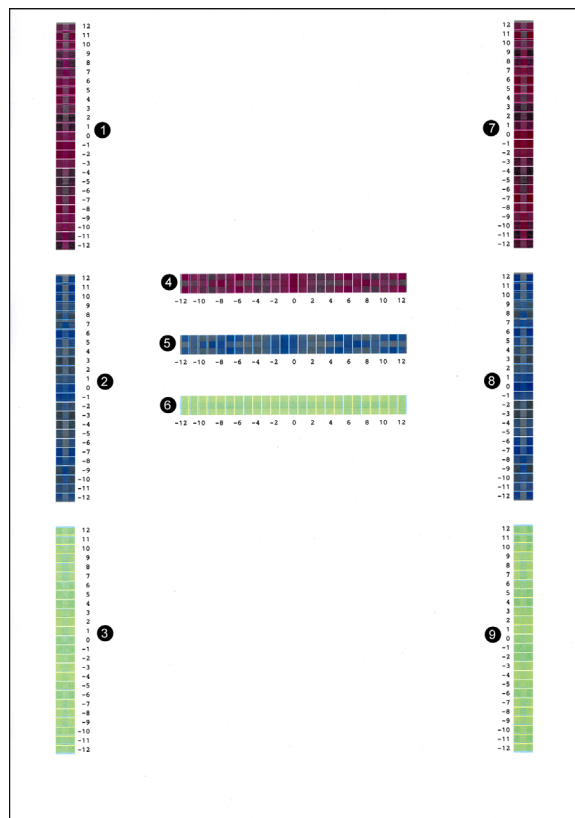

Fig. 5-15
- (2) Press the **▲** or **▼** key to display "PRINT CHART" on the LCD.
- (3) Press the **SET** key. "PRINTING" is displayed on the LCD, and printing of misregistration correction chart (refer to fig. 5-15 \(P5-41\)) is printed. When printing is finished, "PRINT CHART" is displayed on the LCD.
- (4) Press the **Cancel** key to return the machine to the initial state of the maintenance mode.
- (2) Press the **▲** or **▼** key to display "SET REGISTRATION" on the LCD.
- (3) Press the **SET** key. "1. MAGENTA=0" is displayed on the LCD.
Using the printed misregistration correction chart, identify the numeric value whose color is the darkest in the pattern of (1) (Magenta Left) shown in fig. 5-15 \(P5-41\).